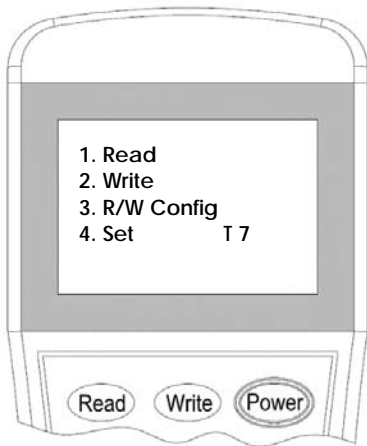
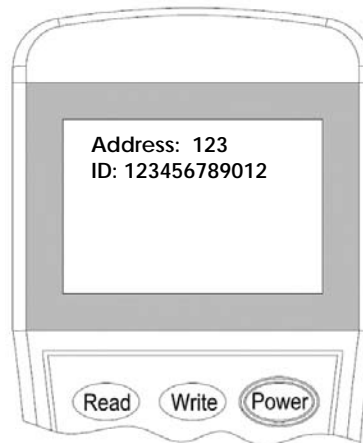

Figure 7
Figure 8
2. Switch-on the programmer, then press button **"Read"** or **"1"** to enter to Read mode (Figure 7). The programmer will display the configuration after few seconds (Figure 8).